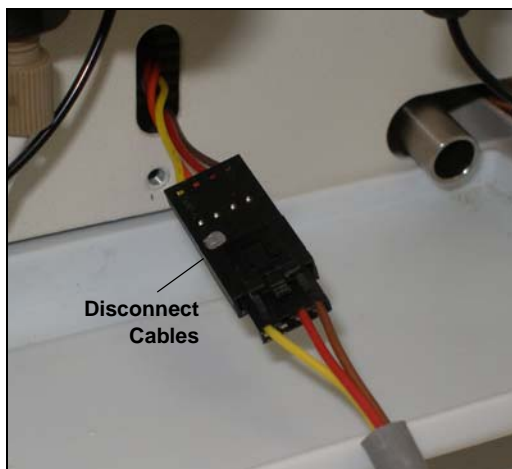

Figure 5-30. Leak Sensor Cable
5. The cable attached to the leak sensor is connected to a matching cable inside the Dionex ICS-2100. Continue pulling the cable until the connectors for the two cables are outside of the panel (see Figure 5-30).